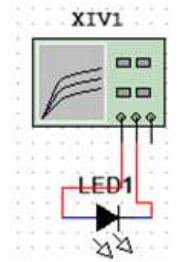

Fig. 2 (b) Multisim schematic for diode I-V curve
(3) Wire the device and instrument as below in Fig. 2(b).